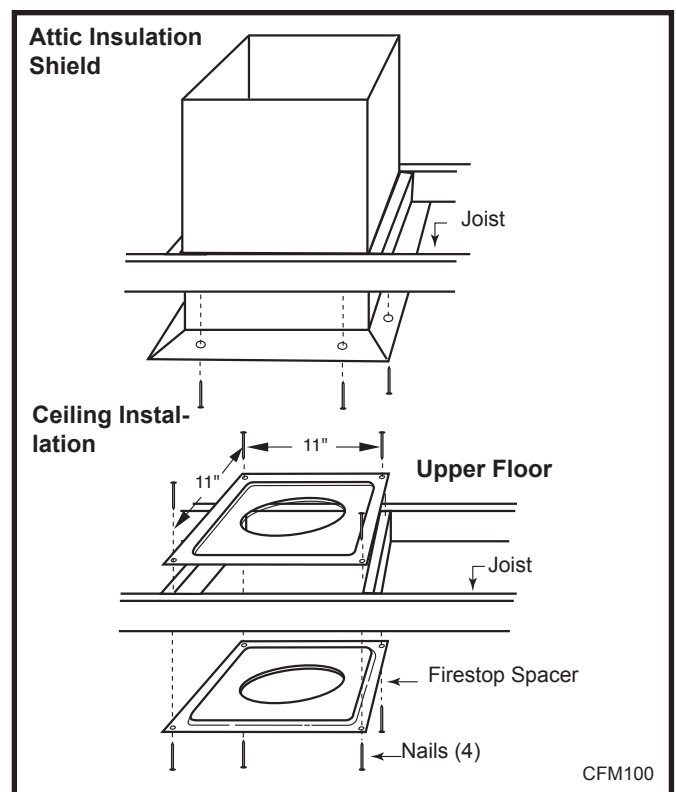

Fig. 35 Place firestop spacer(s) and secure.
6. Place firestop(s) #7DVFS or Attic Insulation Shield #7DVAIS into position and secure. (Fig. 35)
If there is room above ceiling level, firestop spacer must be installed on both the bottom and the top side of the ceiling joists. If an attic is above ceiling level a 7DVAIS (Attic Insulation Shield) must be installed. (Fig. 35)